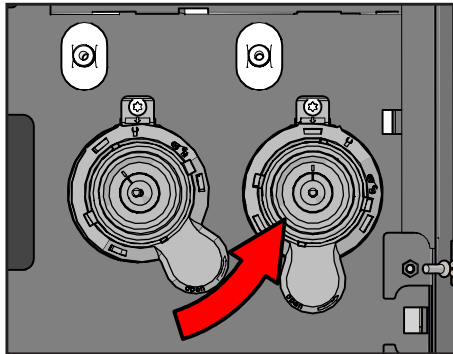
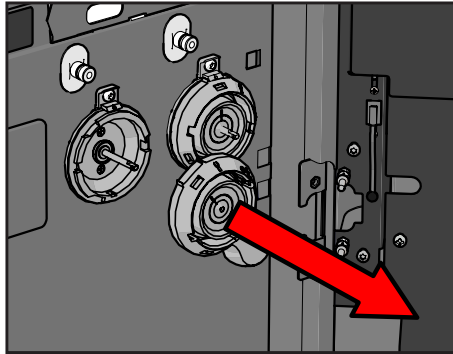

Figure 47.
Figure 48.
13. Remove the washer by turning it further counter-clockwise (see Figure 47 en Figure 48).